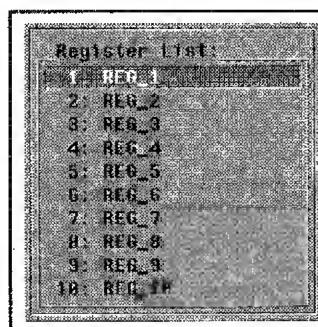

Figure 7-13 Register List Display
- {CURSOR ↑}** :] Shifts the cursor up/down of the register list (Figure 7-13)
- ⑤ Character editing menu